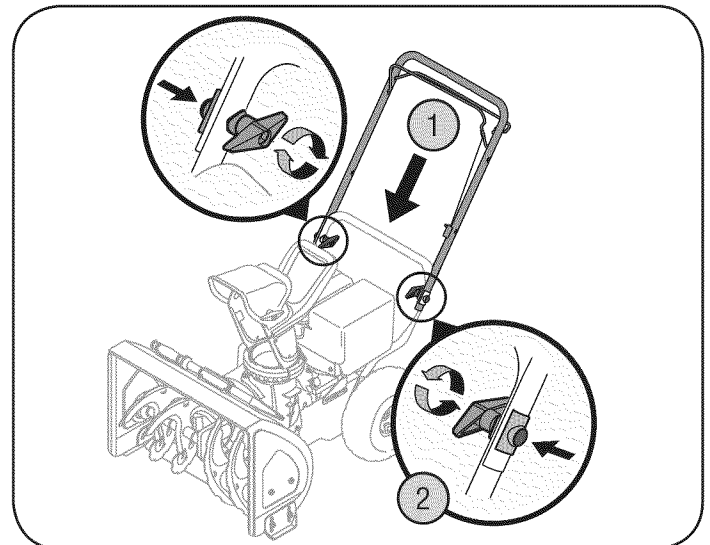

Figure 2
3. Lift the upper handle up and position it over the lower handle, aligning the holes where the wing knobs were removed (1). See Fig. 2.
4. Insert a carriage screw from the outside through a handle tab, the upper and lower handles, a saddle washer and into the wing knob (2). Repeat on the other side.
5. Tighten the wing knobs on each side of the handle. Refer to Fig. 2.